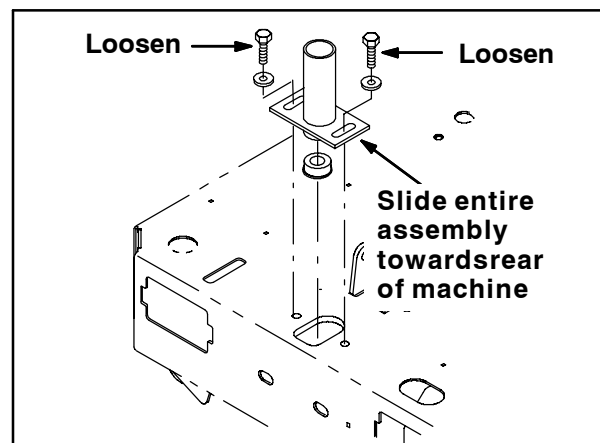

FIG. 1
1. Loosen both hex screws securing the steering assembly housing to the machine frame. Refer to Fig. 1.